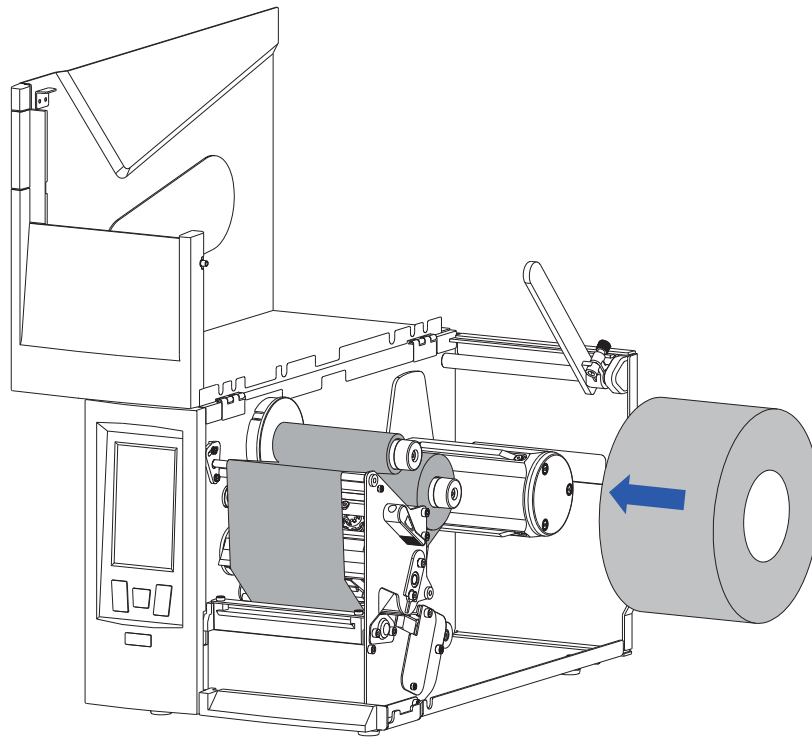

Figure 2-17 Load the Media Roll
2. Load a media roll onto the Media Spindle, make sure that the media roll is firmly pushed against the Stop Plate. As shown in Figure 2-17.